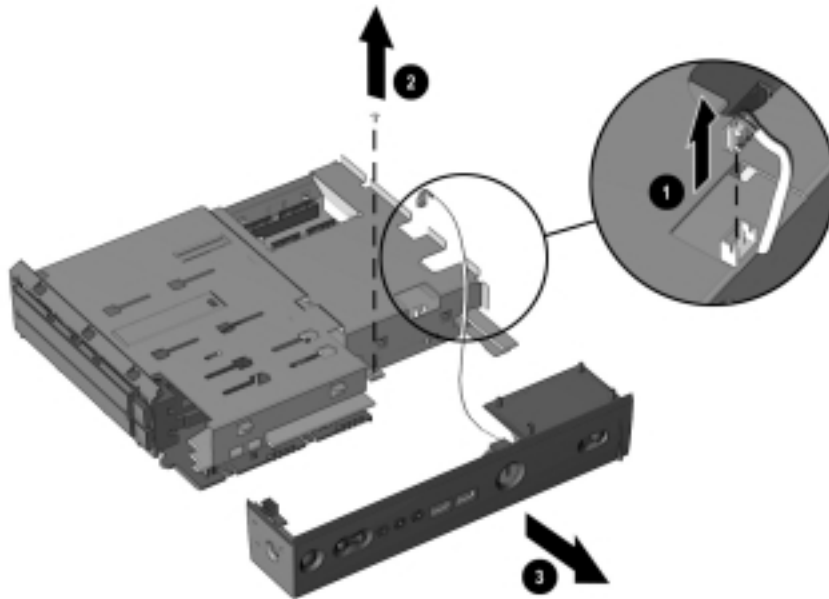

Figure 5-26. Removing the Control Panel
7. Disconnect the right speaker cable ❶ from the MultiBay (Figure 5-26).
8. Remove the screw that secures the control panel to the MultiBay ❷.
9. Remove the control panel from the MultiBay ❸.